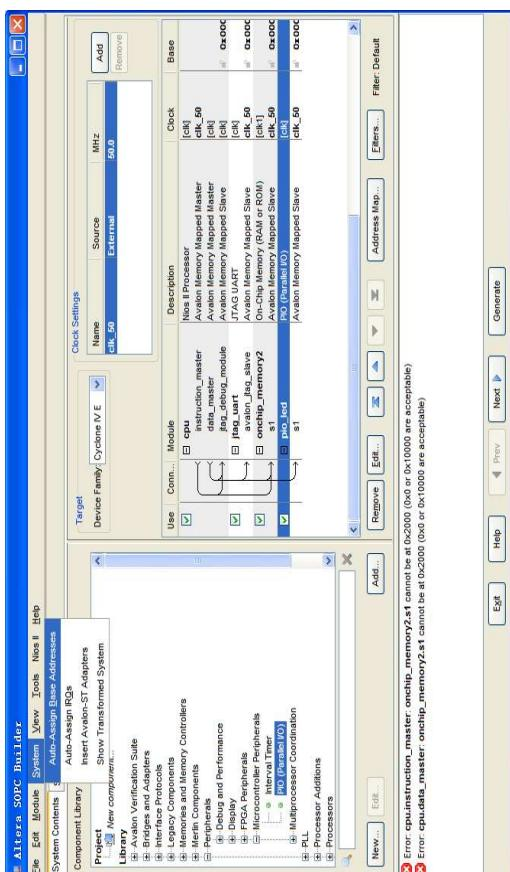

Figure 7-34 Auto-Assign Base Addresses
22. Select **System > Auto-Assign Base Addresses** as shown in Figure 7-34. Then, select **File > Refresh System**. After that you will find that there is no error in the message window as shown in Figure 7-35.